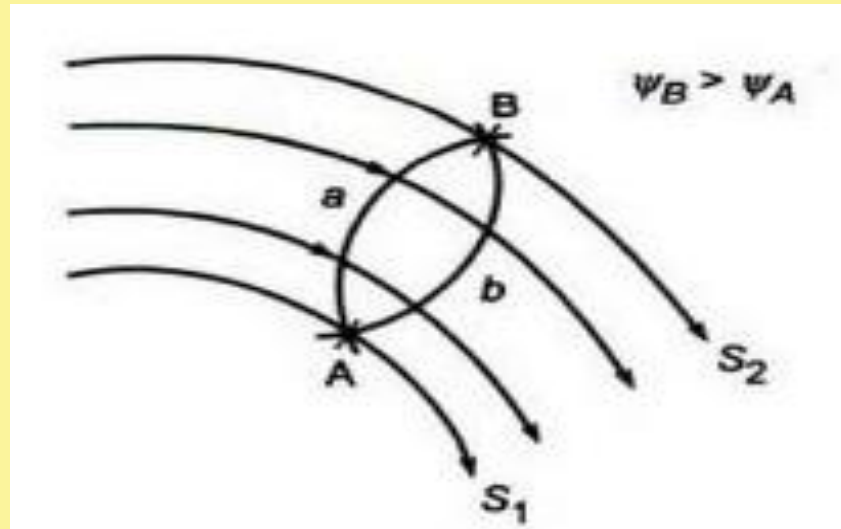

Fig.9
- In a two-dimensional flow consider two streamlines S_1 and S_2 . The flow rate (per unit depth) of an incompressible fluid across the two streamlines is constant and is independent of the path, (path a or path b from A to B in Fig. 9).